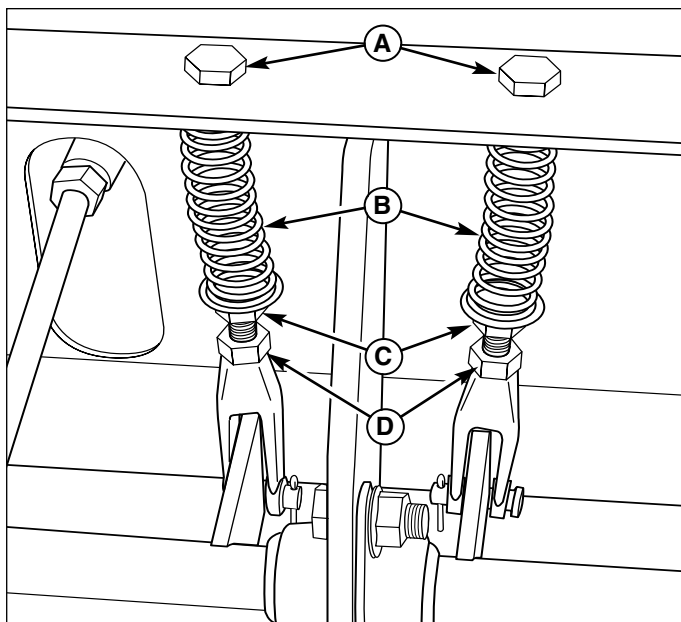

Figure 29. Neutral Spring Return Adjustment
3. Move the ground speed control levers towards the neutral position. If the levers do not align with the notches in the neutral lock plate, it is necessary to adjust the reverse return bolts (A, Figure 29).
1. Loosen the jam nut (D, Figure 29) locked against the clevis.
2. Turn the reverse return bolt (A, Figure 29) clockwise to adjust handle rearward, counter-clockwise to adjust handle forward.
After adjusting the neutral position, lock the levers in the neutral position and measure the reverse return spring (B, Figure 29) length. This should be 2-3/8” (6,0cm) long. If not, hold the reverse return bolt (A, Figure 29) with a wrench while turning the spring position nut (C, Figure 29) until the measurement is achieved.